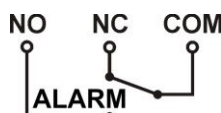

Fig. 6. The electrical diagram of the ALARM output of collective failure.
**CAUTION!** In Fig. 6 the set of contacts shows a potential-free status of the relay which corresponds to a failure.